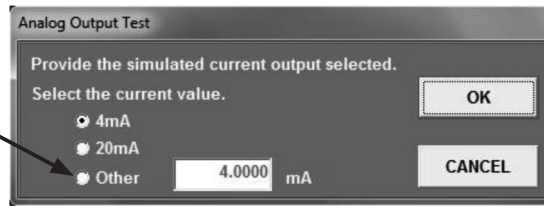

Fig.53
- ③ A window as shown in Fig. 53 appears. Select your simulated output option and click on "OK" button. If your option is an analog output (any current value between 4 and 20mA) other than "4mA" and "20mA", then select "Other", key in the desired analog mA magnitude, and click on "OK".
- ⑤ Clicking on "YES" button allows the message box shown in Fig. 53 to reappear. To check other output levels, follow the same setup and operations as outlined in ③. To exit "Analog Output Test", click on "CANCEL" at the message box in Fig. 53.